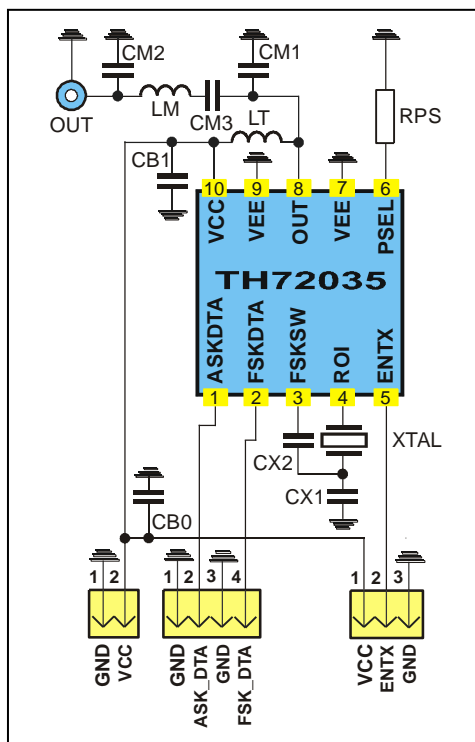

Fig. 18: Test circuit for FSK and ASK with 50  $\Omega$  matching network
typical values at  $T_A = 23\text{ °C}$  and  $V_{CC} = 3\text{ V}$ ; test circuit shown in Fig. 18,  $f_c = 868.3\text{MHz}$
- Data according to test circuit in Fig. 18 (868.3MHz)
### 6.1. Test circuit component list to Fig. 18